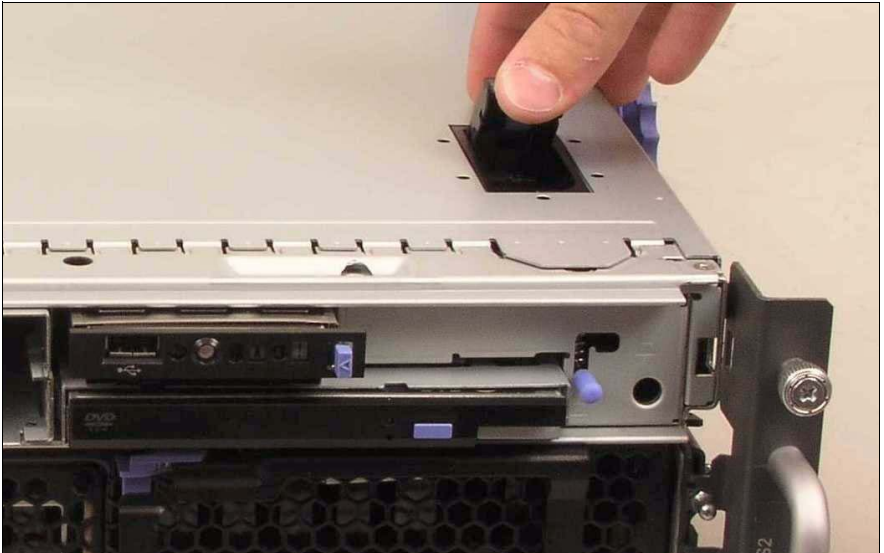

Figure 6: Removing the cover (server front shown without bezel)
- Lift the cover release latch (see figure 6).